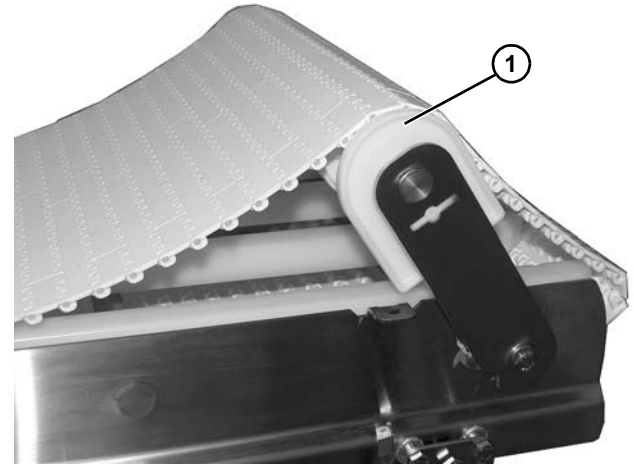

Figure 29
1. Tip up idler tail (**Figure 29, item 1**).